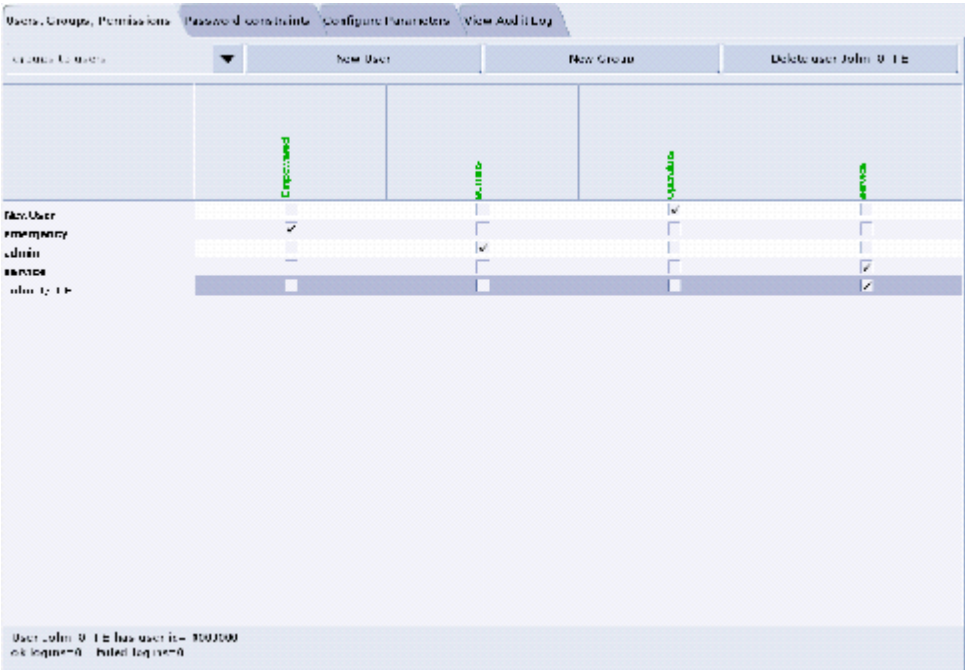

Figure 1-16 Using the User, Groups, Permissions screen
- 8.) If an account for a service user has been added, select groups to users from the pull-down menu, and assign the service user to group Service by selecting the check-box under Service in the row of the new user name, e.g., John_Q_FE (see Figure 1-16).